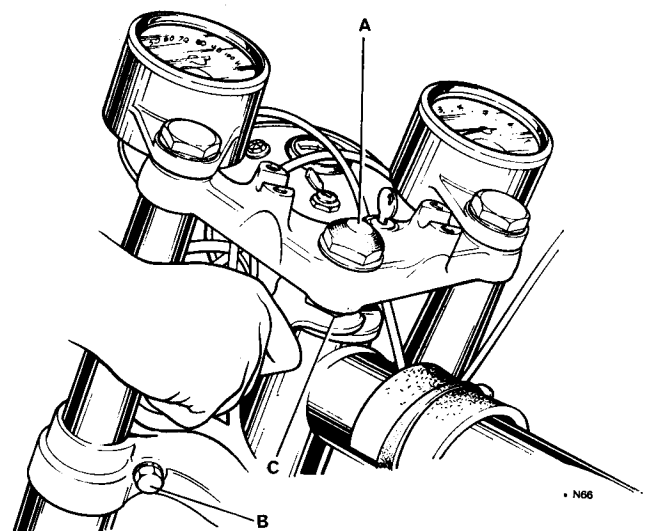

Fig. G8 Steering head adjustment—pre 1971
- 4 Slacken the lower lug socket headed pinch screws (see *Fig. G8*).
- 1 Slacken top nut (A) in *Fig. G8* (this is facilitated by removing the handlebar).
- 2 Release fixing nuts (B) to allow the fork tubes to slide in the yoke.
- 3 Using a Service Tool 060942, tighten adjusting nut (C) a little at a time to take up play. Continue to adjust until the forks turn freely from lock to lock without binding.
- 4 When adjustment is correct, tighten nut (A), clamping nuts (B) and refit the handlebars.
- 8 Now tighten the fork securing points shown in *Fig G8/9* in this sequence : Chrome top bolts, main fork stem nut, lower yoke pinch screws. Note that the stem nut must not be over-tightened. On 1970 models this would damage the steering head bearings, which must adjust until the forks are free to turn with no perceptible play.